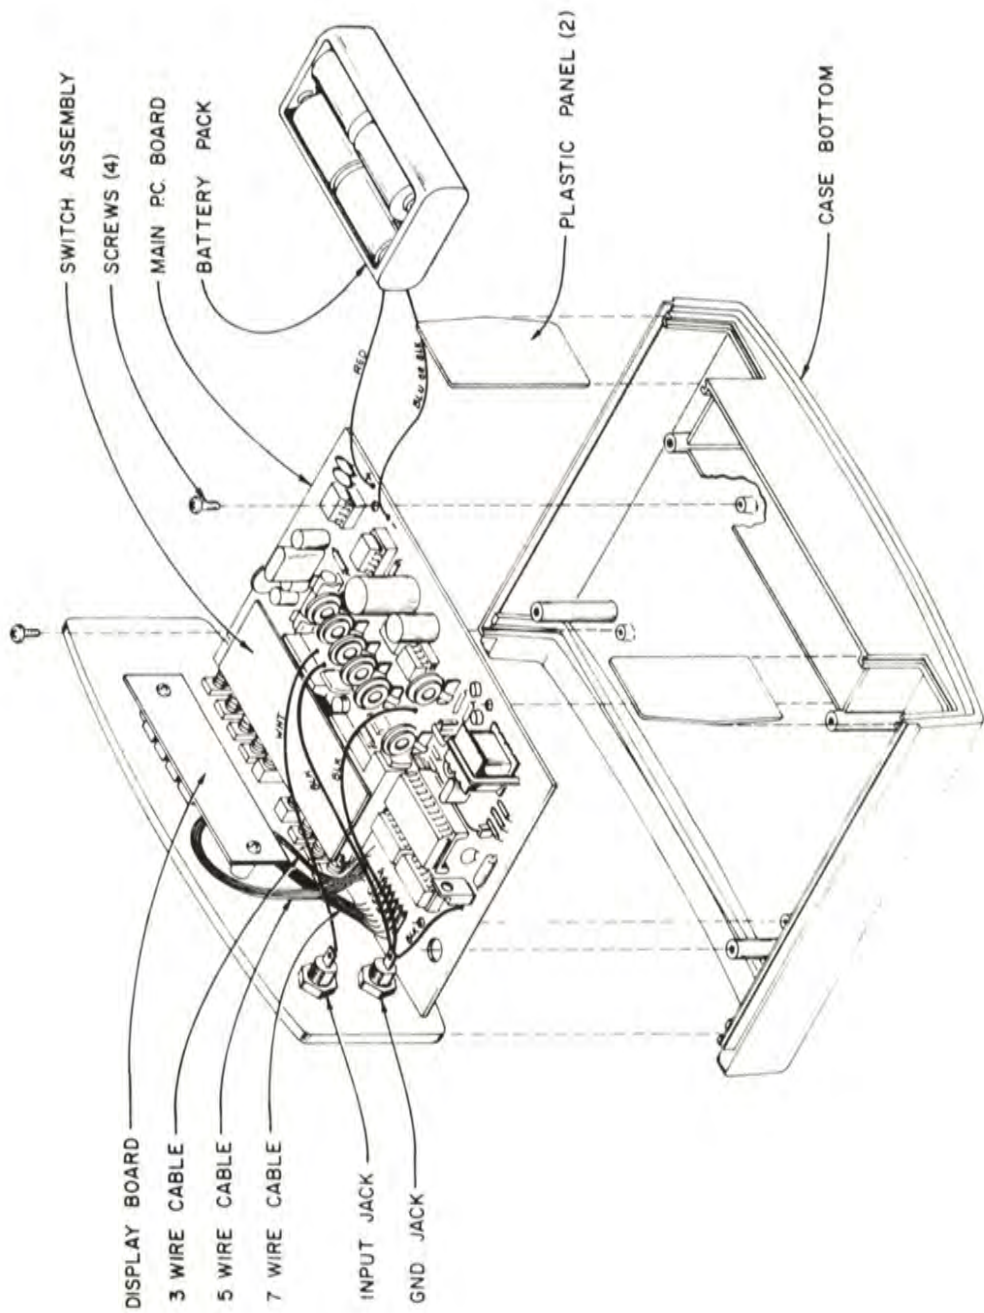

Figure 3
- [] Install the two plastic panels in the slots in the rear of the case half as in Figure 3.
- () ~~Mount~~ ^{SLIP} the front panel, with the jacks and switch buttons installed, on the main P. C. board assembly as in Figure 3. ^{DISPLAY BOARD}
- () Install the main P. C. board assembly, that has the front panel assembly attached, to the bottom case half as shown in Figure 3.